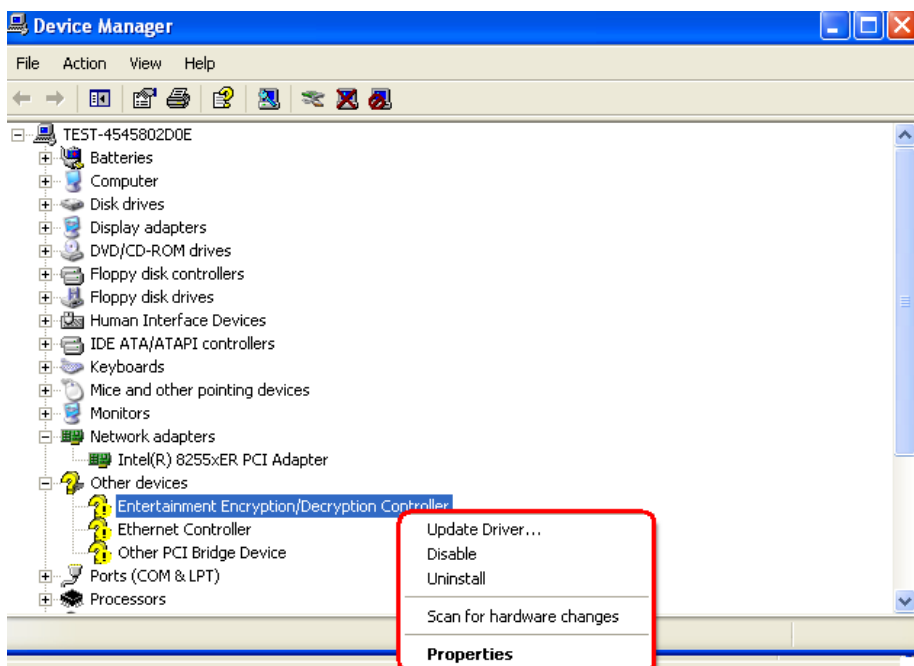

Figure 7-35: Update Entertainment Encryption/Decryption Controller Driver Selection
Step 3: The small window in **Figure 7-35** appears.
Step 4: Select the **UPDATE DRIVER** option in the small window shown in **Figure 7-35**.